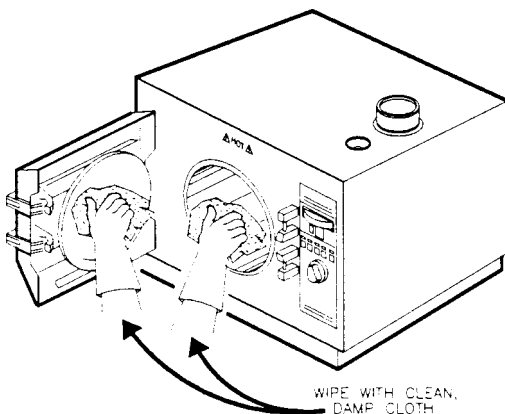

Figure 29: Cleaning the Door Gasket
- Wipe the door gasket and mating surface daily with a clean damp cloth (see Figure 29). Do not use abrasive cleaners.